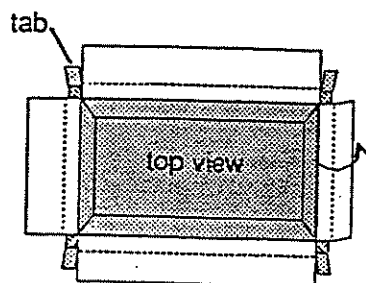

Figure 5
6. Set a smaller (inner) box into the opening formed by the liner until the flaps of the smaller box are horizontal and flush with the top of the liner (see Figure 5). Place some wads of newspaper between the two boxes for support.